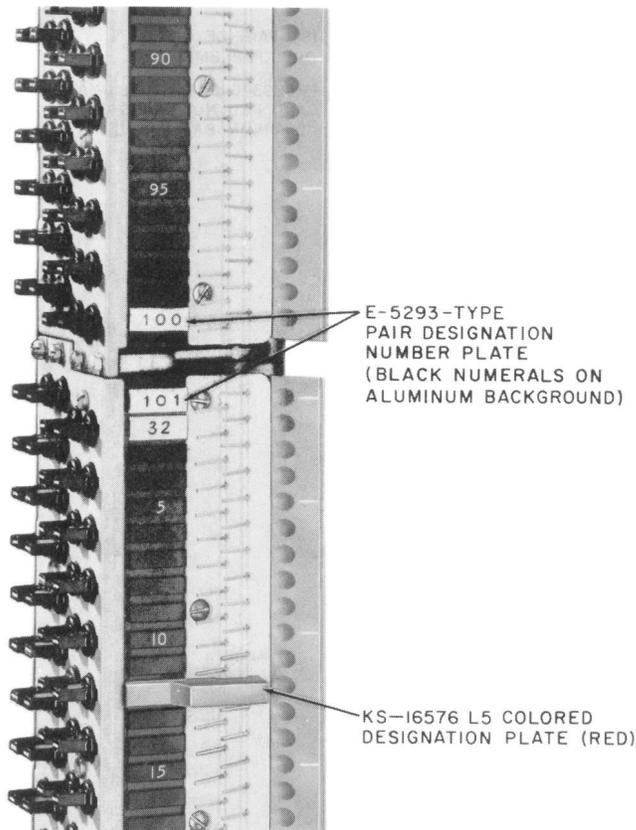

Fig. 3—Marking Prestenciled 300-Type Connector
2.05 The marking of a prestenciled 300-type connector with adhesive number plates is illustrated in Fig. 3.